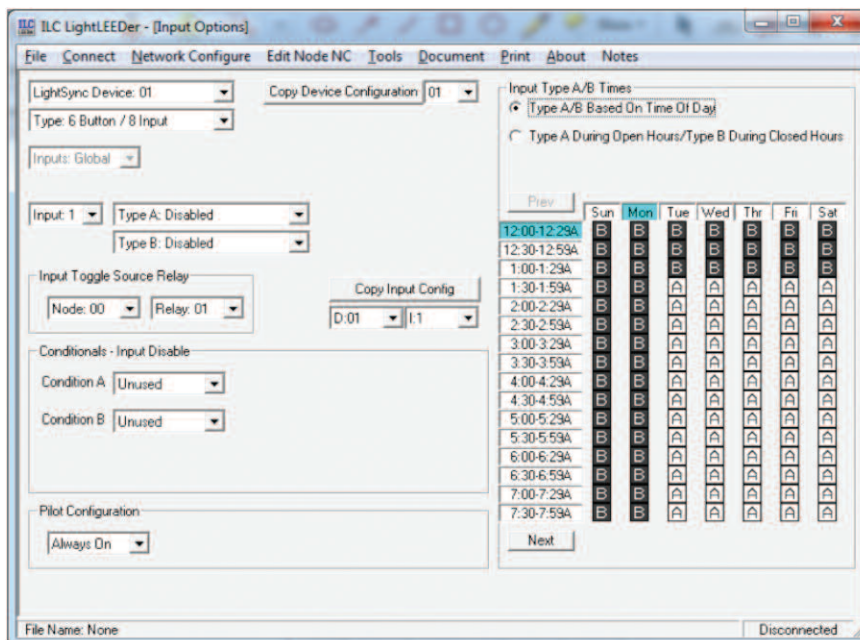

Figure 3.1 A/B Input Active Times
- **Input Active Times:** There are 2 types available, one type is based on the time-of-day and the other by the Open/Close times (see section 3.7.1 for Open/Close setup). For the time-of-day type, by default all times are active for type "A" switch input type, by clicking the time/day box you change to the "B" input type. Clicking on the time section or the day section will select the entire row or column. Press the "Next" button to go to the next time section or press "Prev" to go back. See Figure 3.1.